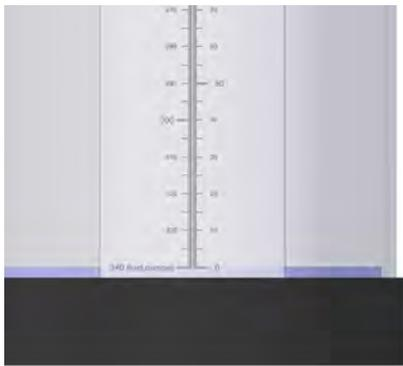

Figure 1
9. Using the stop watch, determine the pump flow rate. Keeping the pump running, position the valve on top of mix tank to “CALIBRATION TUBE”. When liquid reaches 0 (zero) or an even number, begin timing for one minute. (see Figure 1, below)